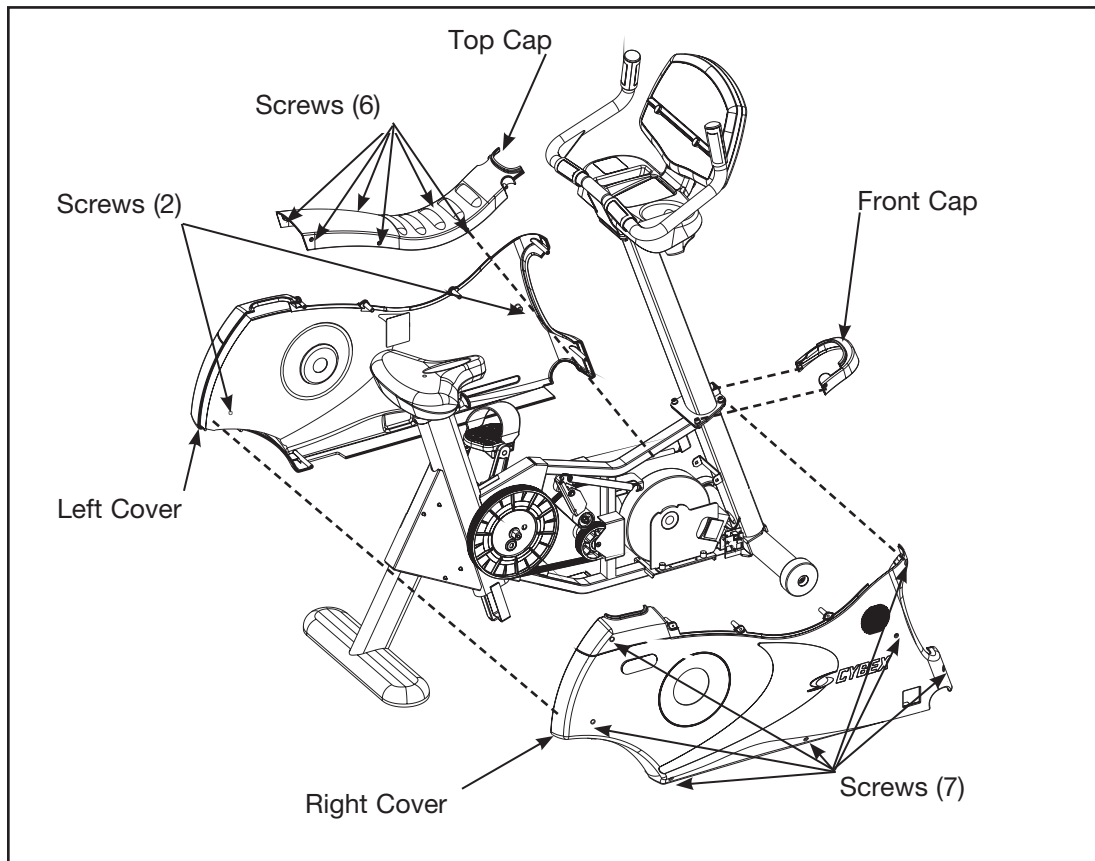

Figure 5
- C.** Remove the six screws securing the top cap in place. Remove top cap. See Figure 5.
- D.** Remove the seven screws securing the right cover in place. Remove right cover. See Figure 5.
- E.** Remove the two screws securing the left cover in place. Remove left cover. See Figure 5.